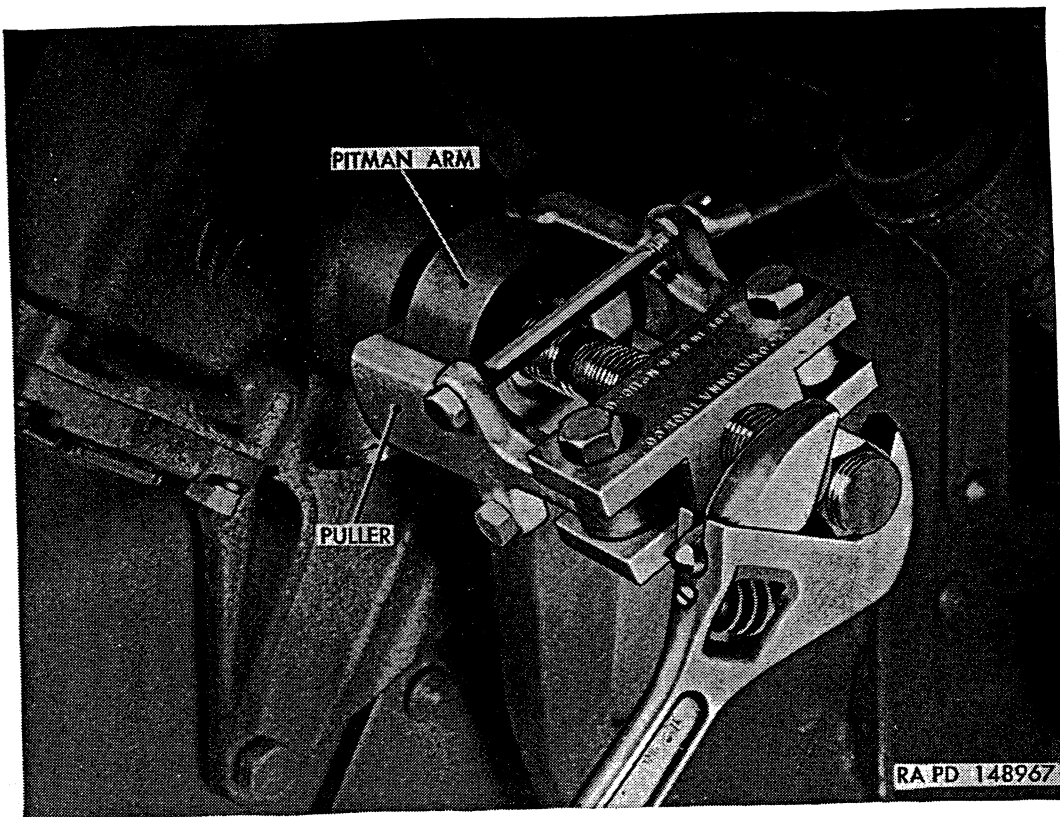
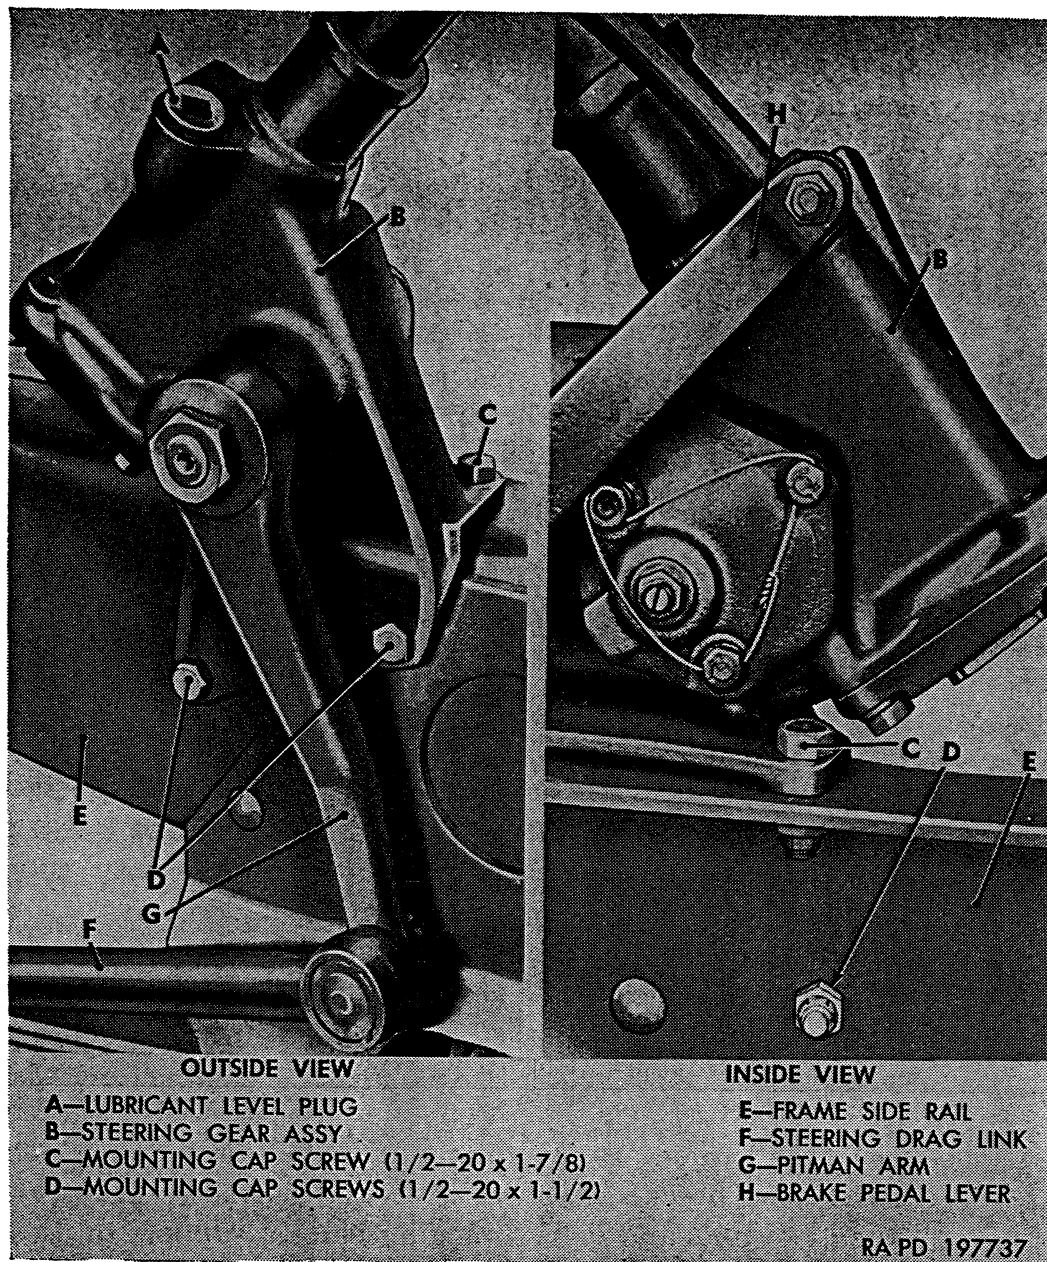

Figure 280. Removing pitman arm.
Figure 283. Steering gear mounted to frame.
(fig. 280)
- (1) Remove left fender and skirt assembly (par. 304b).
- (2) Remove and discard cotter pin from slotted hex nut on steering drag link ball stud. Remove stud nut; then drive ball stud out of pitman arm.
- (3) Remove nut and lockwasher which retains arm or pitman shaft. Use a suitable puller to remove arm from shaft in manner shown in figure 280.
- (4) Remove four cap screws (C and D, fig. 283) and nuts which mount steering gear to frame side member.
- (5) In cab, pull steering gear back until it clears cowl bracket; then pull steering gear straight up through floor and out through left door.
- (6) Remove nut and lockwasher which retains pitman arm on pitman shaft. Use a suitable puller (fig. 280) to remove arm from shaft.
- (1) Position pitman arm on pitman arm shaft, matching blank serrations on shaft with blank serrations in arm.
- (2) Install  $\frac{7}{8}$ -inch lockwasher and nut on pitman shaft; then tighten nut to 115 to 155 pound-feet torque.
- (3) Guide steering gear and pitman arm assembly through opening in cab floor inside cab.
- (4) Position steering gear on frame side member; then install three  $\frac{1}{2}$ -20 x  $1\frac{1}{2}$  cap screws (D, fig. 283) and one  $\frac{1}{2}$ -20 x  $1\frac{7}{8}$  cap screw (C, fig. 283) with four  $\frac{1}{2}$ -30 safety nuts. Tighten nuts to 48 to 64 pound-feet torque.